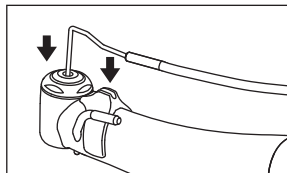

Fig. 8
- 3) Insert the end of the Internal Spray Nozzle into the hole at the top of the handpiece head, then attach the Internal Spray Nozzle into the slot on the Nozzle Holder. (Fig.8)